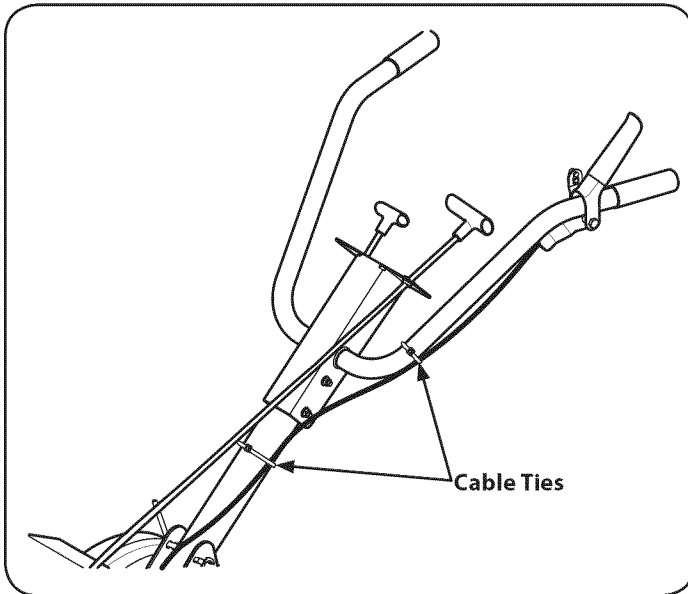

Figure 8
- When the clutch cable is in place, secure the cable onto the handle with the provided cable ties in the locations shown in Figure 8.